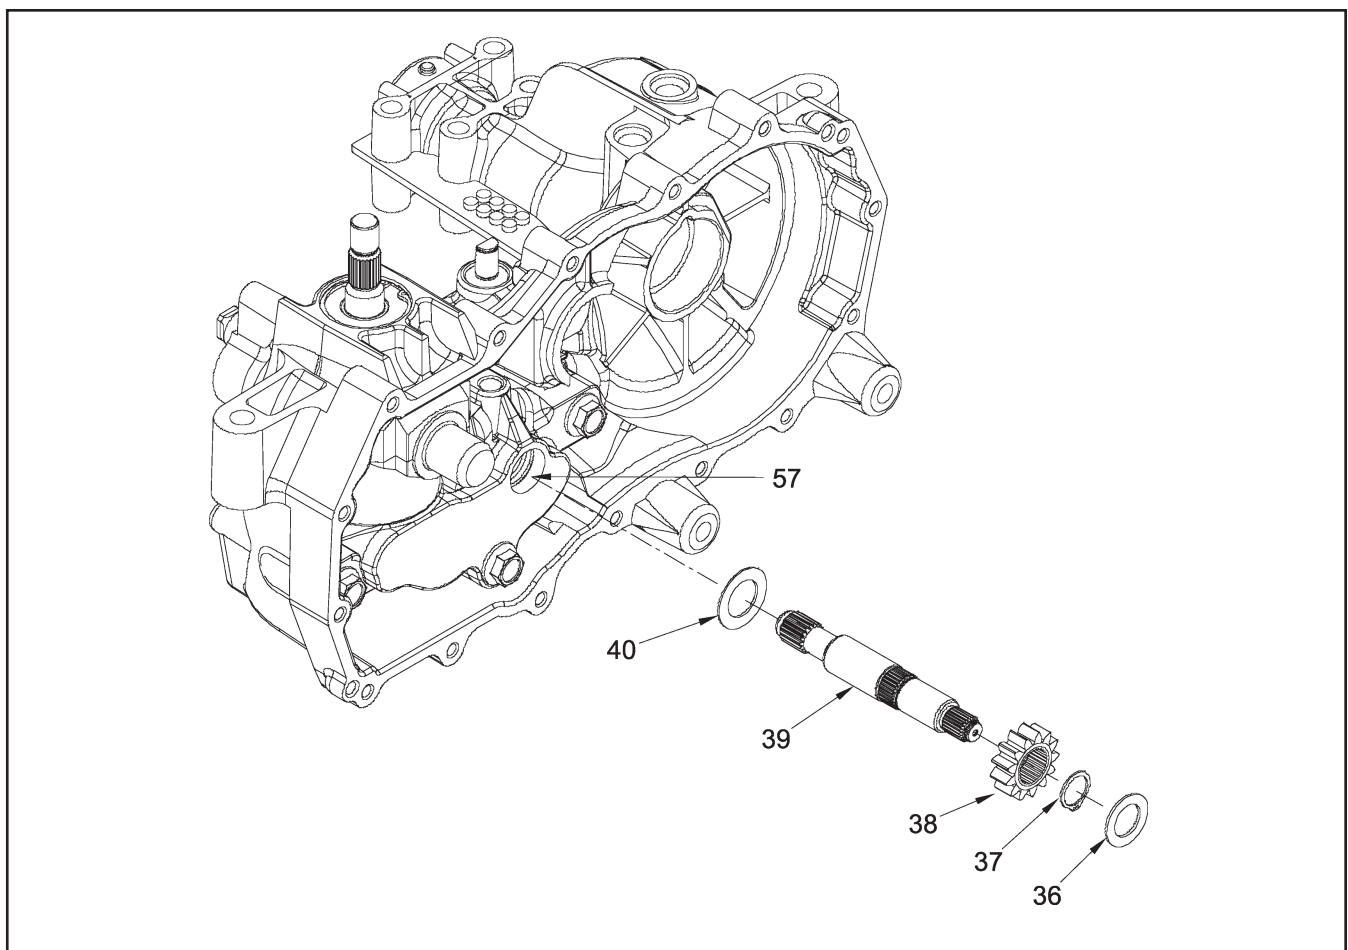

Figure 14. Motor Shaft
Refer to Figure 14.
6. **(See Figures 14 & 24)** Install the motor shaft (39), pinion gear (38) and flat washers (36 & 40) into the center section (57).
7. Assemble the motor block assembly (6) onto the motor shaft (39).